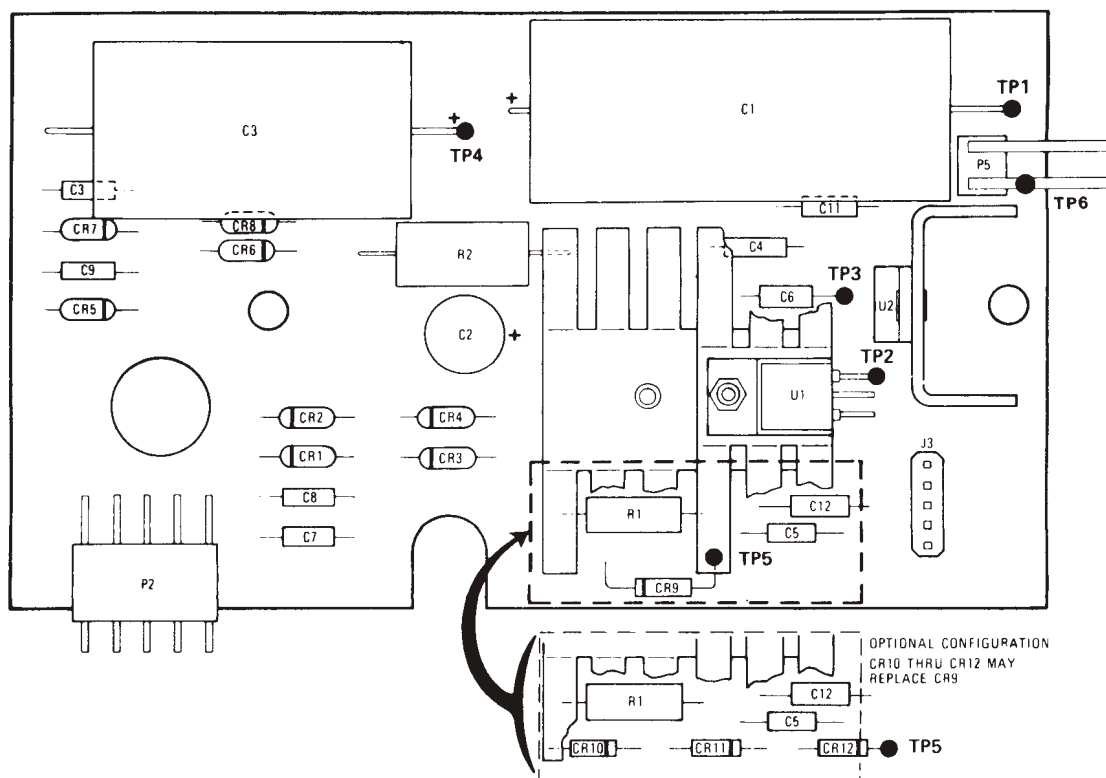

Figure 5 Test Points Location Diagram
- (a) Carefully remove 5-pin ribbon connector and 2-pin plug from the Power Supply Board (see Figure 5, Page 8).
- (c) Connect negative probe of voltmeter to Ground Test Point on the Power Supply Board. Connect positive probe to +5 Volt Test Point. Refer to Figure 5. Meter should read 4.85-5.15 VDC.
(h) Turn power off. Reconnect 5-pin ribbon cable and 2-pin plug. Turn power on and remeasure voltage at +5.65 volt connector pin. Meter should read 5.45 - 5.85 VDC. If voltage is not within limits, turn off power and measure resistance of R2 (Figure 5). If OK, replace logic board. If not OK, troubleshoot power supply board.
DO NOT CHECK SUPPLY VOLTAGES AT THE J3 RIBBON CONNECTOR AS METER PROBES COULD DAMAGE CONNECTOR PINS. CHECK VOLTAGES AT THE TEST POINTS SHOWN IN FIGURE 5.